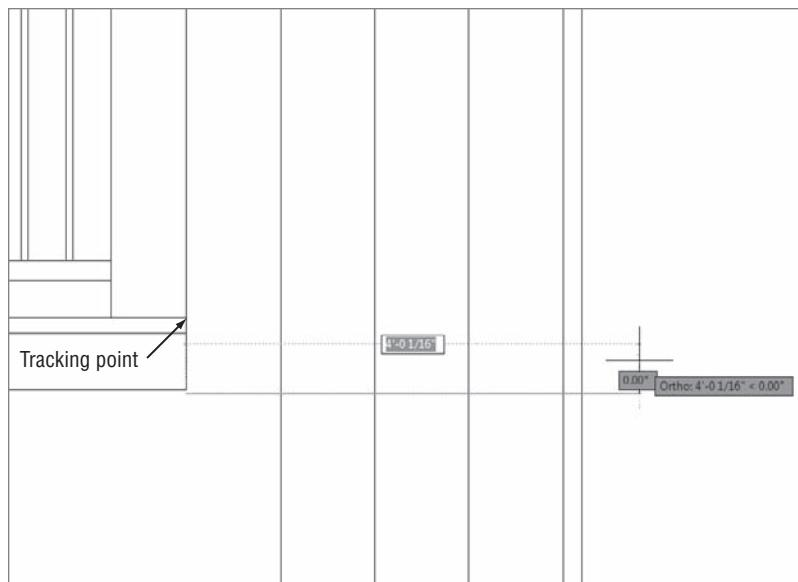

FIGURE 10.25 Drawing the first step tread
1. Using Object Snap Tracking and direct input, draw a line from a point 8" below the top of the deck directly to the right, well beyond the last vertical step line, as shown in Figure 10.25.